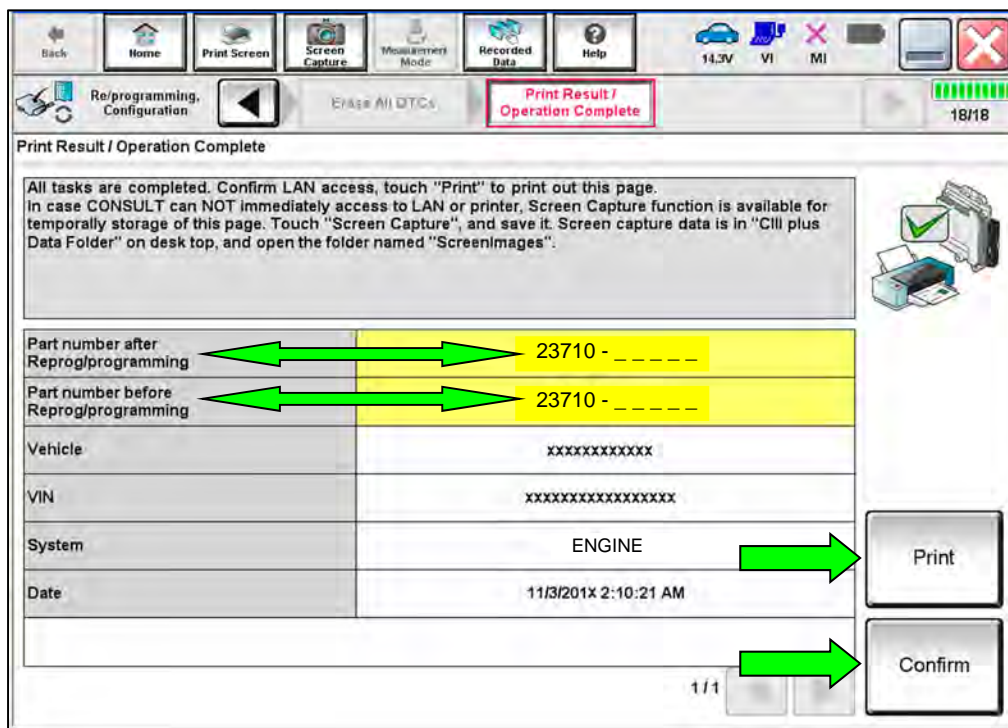

Figure 30
- When the entire reprogramming process is complete, the screen in Figure 30 will display.
35. Print a copy of this screen (Figure 30) and attach it to the repair order for warranty documentation.